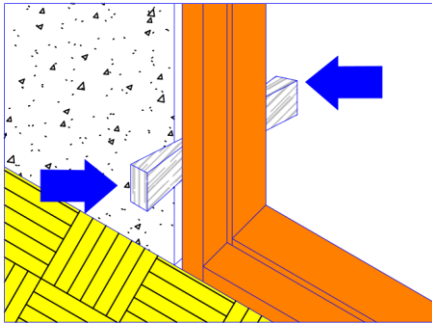
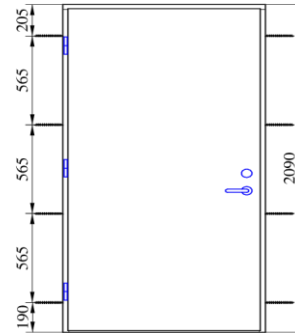

Figure 1.
Figure 2.
2. Then mount the jambs to the aperture while supporting the threshold and the lower ends of the jambs onto the floor or to a secure, levelled surface of the appropriate height. Fix the jambs with assembly wedges from both sides (as shown on Figure 1). The wedges must be approximately 20 mm shorter than the width of the jamb. The wedges must be installed directly under or above the attachment points of the jambs. Fix the jambs from 8 attachment points. The attachment points of jambs are shown on Figure 2